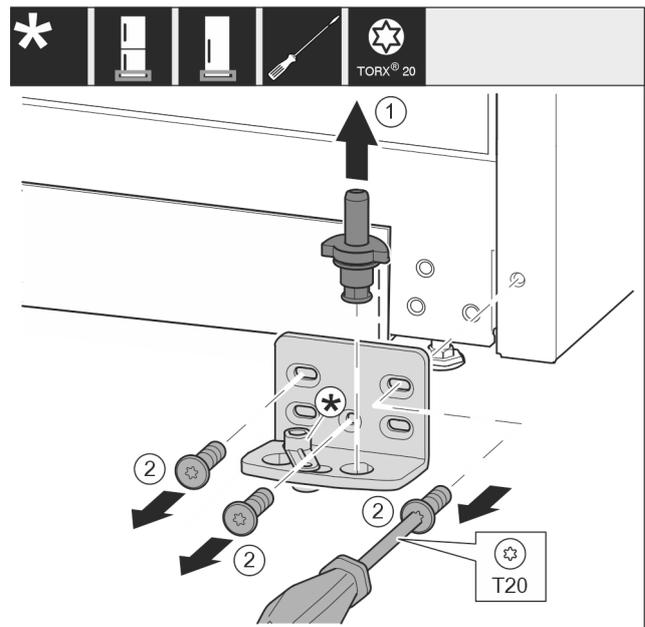

Fig. 13
- ▶ Lift the bearing pin completely upward and pull it out. Fig. 13 (1)
- ▶ Take out the screws with a T20 screwdriver and take off the bearing bracket. Fig. 13 (2)